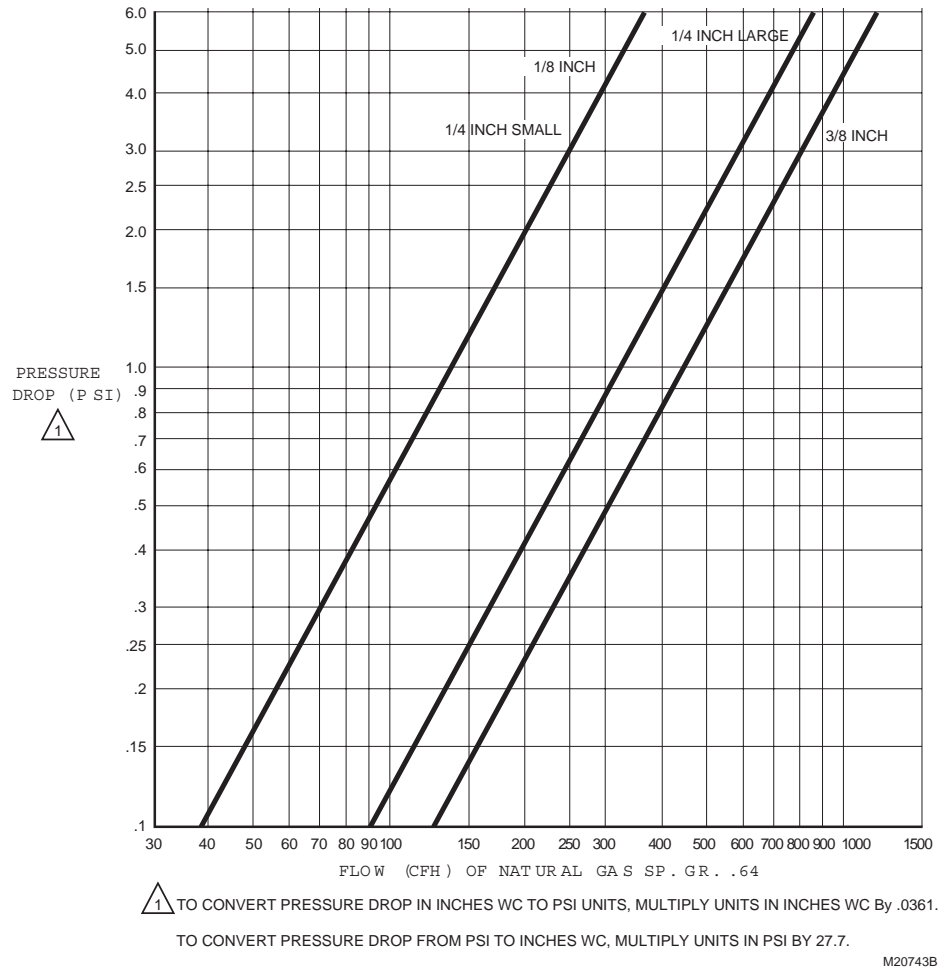

Fig. 1. Pressure drop (psi) vs. flow capacity (cfh) on V4046C, V8046C gas valves only.
Pipe Size: See Fig. 1.
- Use the corrected burner capacity in cfh when determining the gas valve size in Fig. 1.
- Plot the capacity (cfh) vs. pressure drop (psi) in Fig. 1 to find the proper valve size.